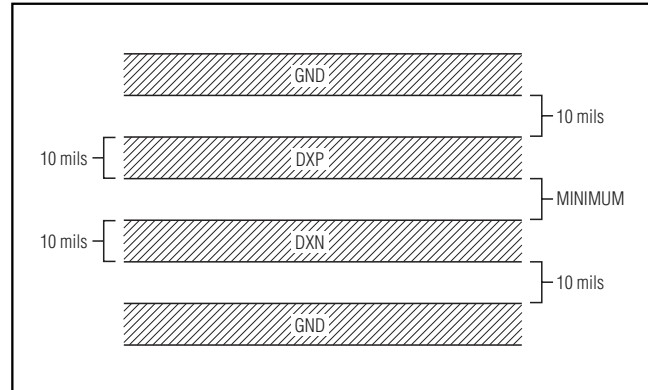

Figure 5. Recommended DXP-DXN PCB Traces
- 3) Route the DXP and DXN traces in parallel and in close proximity to each other. Each parallel pair of traces should go to a remote diode. Route these traces away from any higher voltage traces, such as +12VDC. Leakage currents from PCB contamination must be dealt with carefully since a  $20M\Omega$  leakage path from DXP to ground causes about  $+1^{\circ}\text{C}$  error. If high-voltage traces are unavoidable, connect guard traces to GND on either side of the DXP-DXN traces (Figure 5).